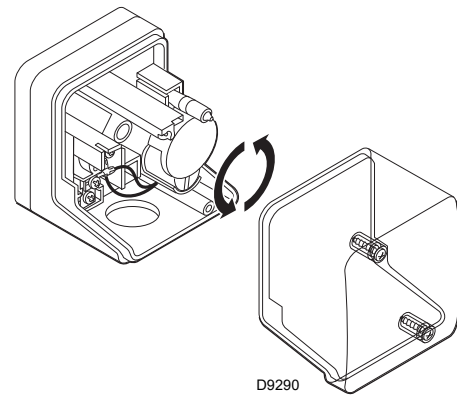

Fig. 43
- Adjust the minimum gas pressure (Fig. 43, page 33) switch to the start of the scale.
Adjust the minimum gas pressure switch (Fig. 43) after having adjusted the burner, the gas valves and the gas train stabiliser. With the burner operating at maximum output: